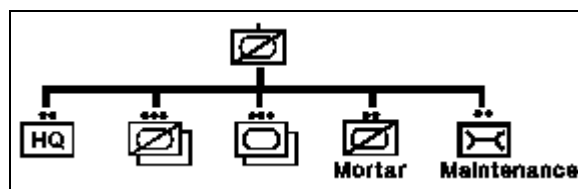

Figure 1-4. Armored cavalry troop organization.
The armored cavalry troop consists of a headquarters, two tank platoons, two scout platoons, and mortar and maintenance sections. The headquarters section is equipped with one main battle tank, one command post (CP) carrier, one APC, one cargo truck, and two utility trucks. The scout platoons consist of six M3 cavalry fighting vehicles (CFV). Equipment in the mortar and maintenance sections includes two 107-mm mortars mounted in self-propelled carriers, one APC, one heavy recovery vehicle, ers. (See Figure 1-4.)